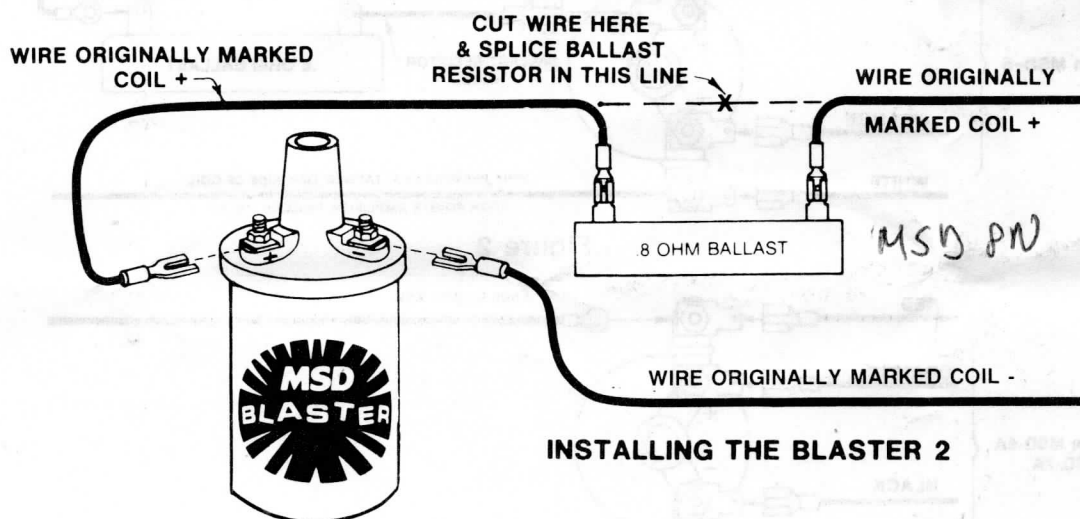

Figure 1
5. Note that a 0.8 ballast resistor is required at this point in order to complete the installation. Wire or splice the 0.8 ohm ballast resistor into the original wire marked coil (+) as shown in Figure 1. Install the original wire marked coil (+) onto the Blaster Coil at the location marked (+).